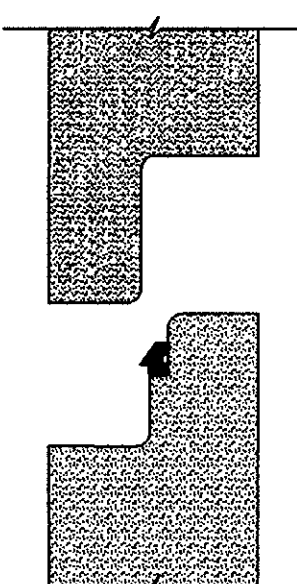

Figure 1
- Place the profile gasket in the step of the "dry" spigot. Verify that the pointed end of the gasket is directed towards the shoulders of the spigot. (See Figure 1)